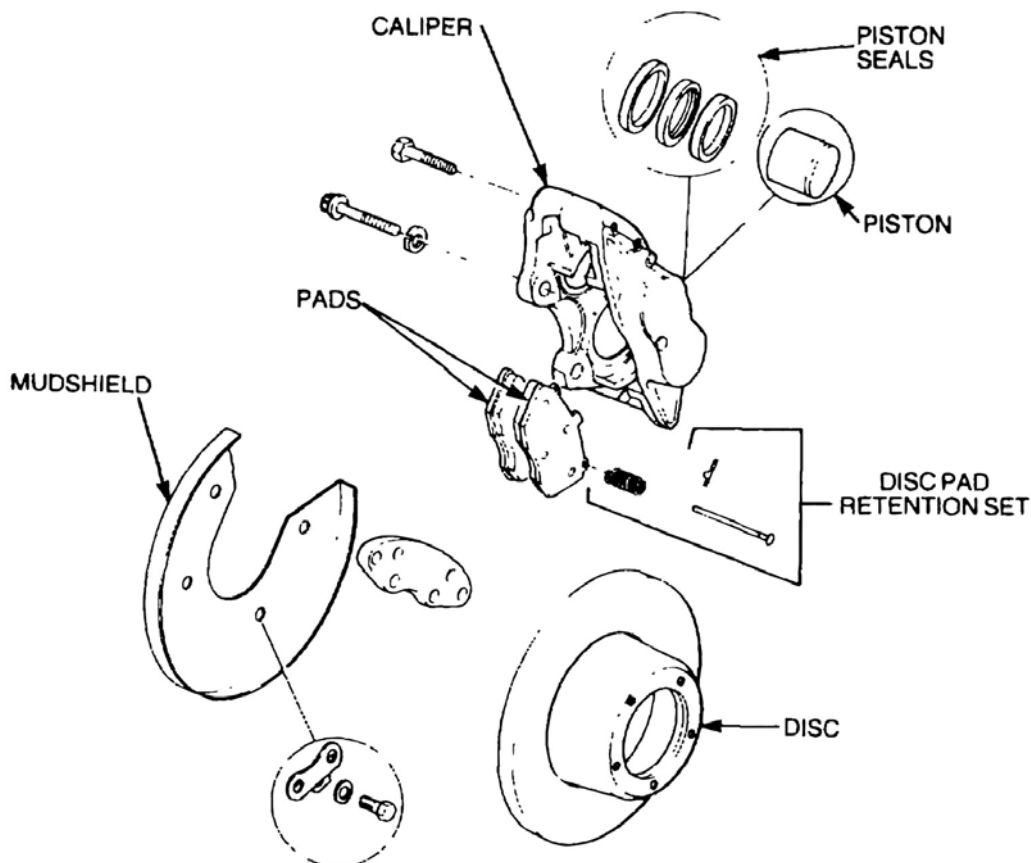

Figure 4 Brake Caliper – Exploded View
- a. Thoroughly clean the caliper (Figure 4), bores, pistons and in particular the seal grooves and allow them to dry.